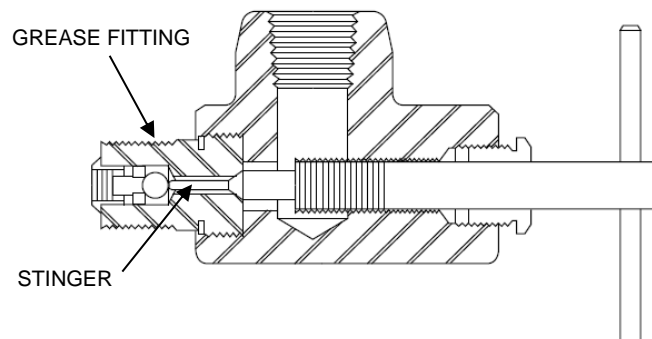

Figure 7 - Pressure Releasing Tool with Stinger Screwed In (Ball Check Open and Venting).
4. Carefully screw the stinger of the releasing tool- (until the ball check in the grease fitting is pushed off its seat, Figure 7). This will allow the valve to drain or to release body pressure.